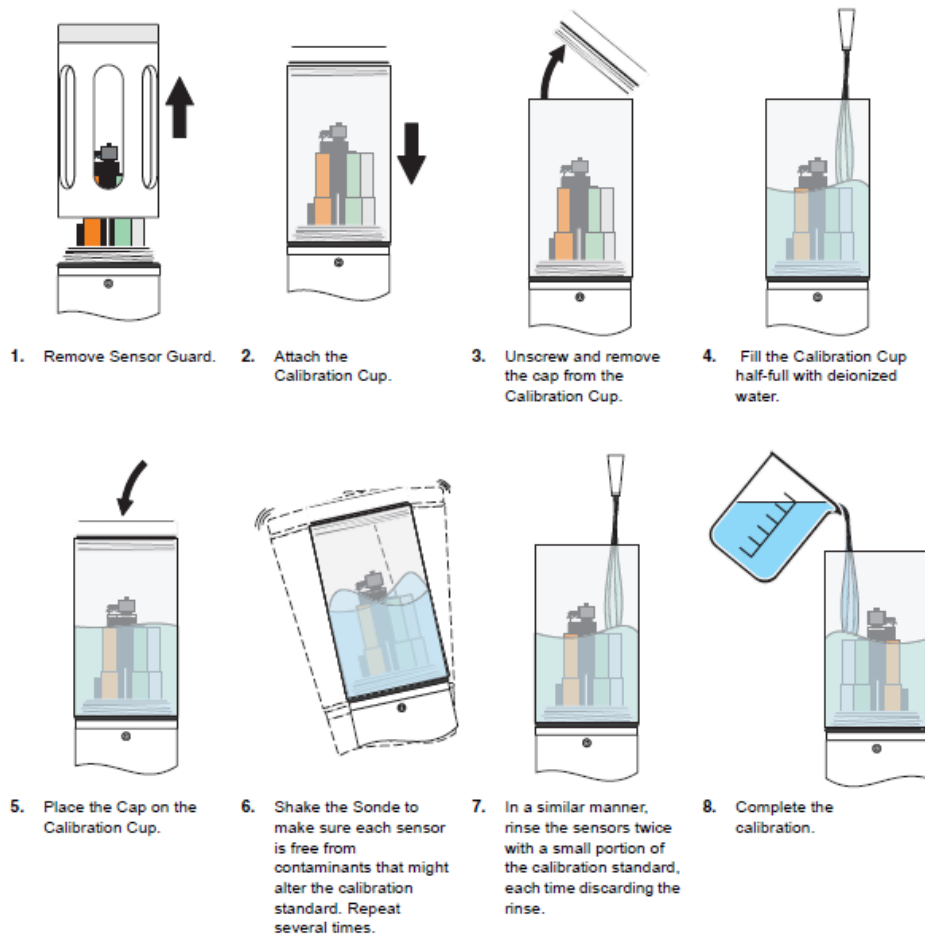

Figure 8.1. Standard setup for calibrating Hydrolab sondes.
- During specific conductance and pH calibration the sonde may be oriented with the sensors facing up (see Figure 8.1) or down. Make sure that the calibration standard covers the sensors. However, while calibrating DO (Clark cell type) the sensors are typically facing up.
- Fill the calibration cup, covering the DO sensor, with the calibration standard and allow the sensor to stabilize (see Figure 8.1).